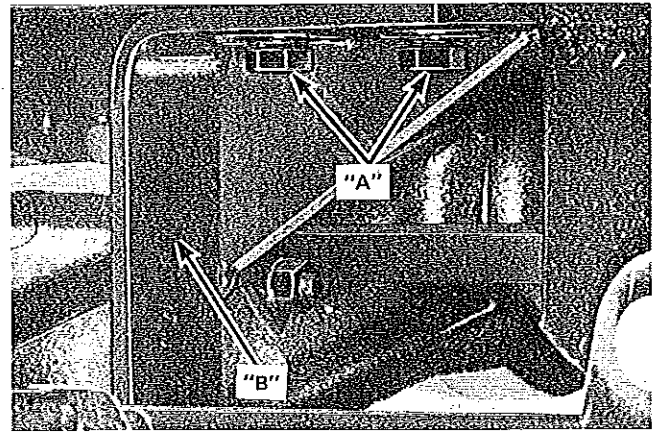

Figure 34
A. Loosen capscrews "A," Figure 34.
C. Secure capscrews "A," Figure 34.